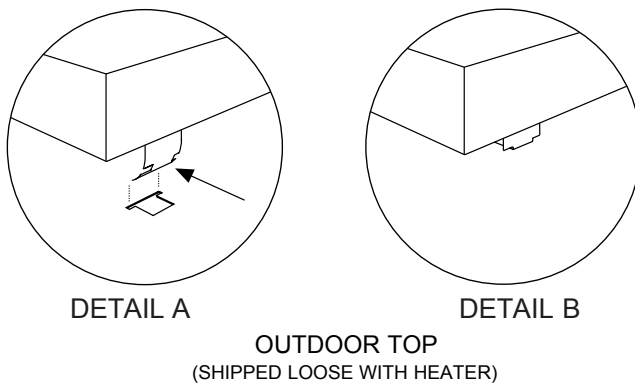

Figure 10. Outdoor Top Installation for Models 0181-0401 and 0182-0400
1. Insert tabs of outdoor top into keyholes located on jacket top panel (4 places). See **Figure 10**, Detail A.
2. Snap tabs on outdoor top into the locked position of the keyhole so the top will not pull out. See **Figure 10**, Detail B.